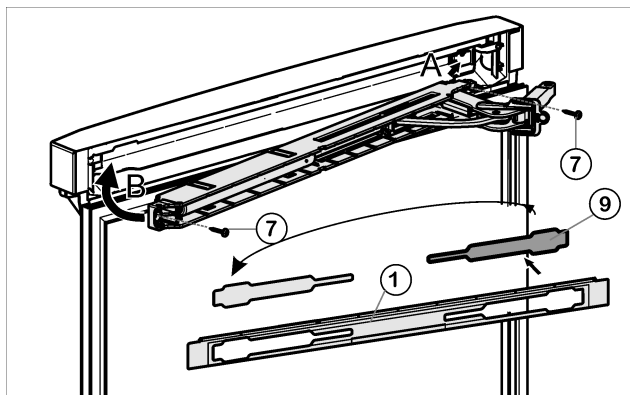

Fig. 25
- ▶ Loosen cover *Fig. 25 (9)* from the panel *Fig. 25 (1)* and insert on the other side.
- ▶ With the hinge of the upper soft stop unit facing the door hinge side, engage the soft stop unit (A) and swivel inwards (B).
- ▶ Tighten soft stop unit (2 x Torx 15) *Fig. 25 (7)*.